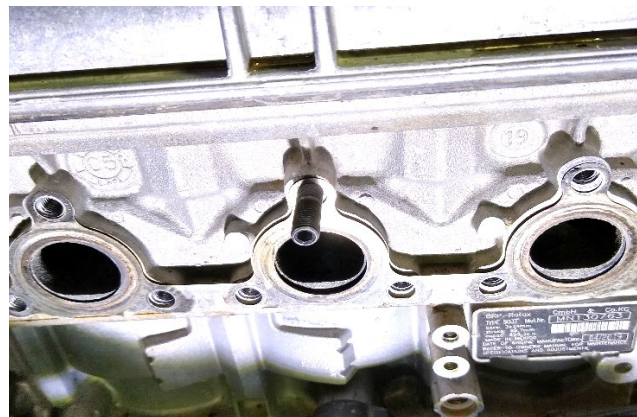

Figure 1
Step 2: Install the provided stud into the top hole of the center exhaust port, thread stud in and back it one full turn (See Fig. 1)